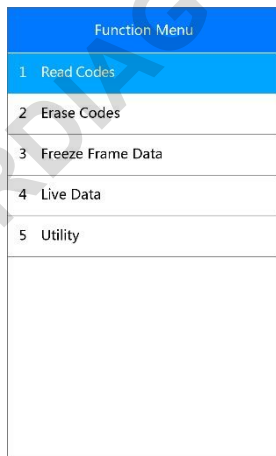

Figure 5-10 Sample SAS Function Menu
- 1) From the function menu (Figure 5-10) use the **UP/DOWN** scroll button to select **Utility** and press the **OK** button. The scan tool displays function menu as below.